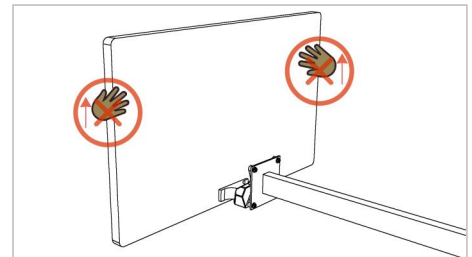

Figure 6
**Make sure that the VESA adapter comes off when you pull the monitor up. This is because the monitor is designed to remove the original Samsung monitor base (Figure 6).**